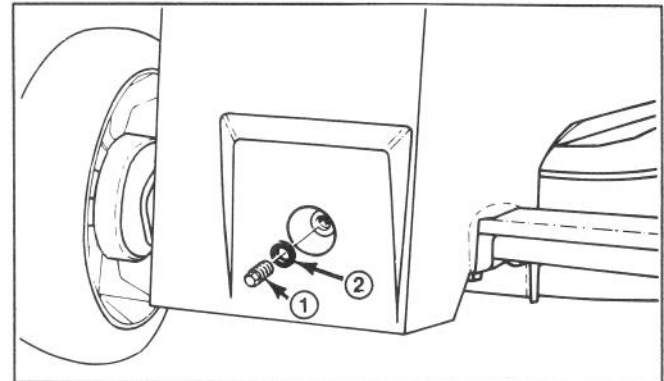

Figure 28
5. CHECKING GEAR OIL LEVEL—Reach between deck and gear case and clean around plastic gear case plug (Fig. 28). Remove gear case plug and gasket and watch for oil to drip out of hole. If oil drips out, quickly reinstall gear case plug and gasket because oil is at proper level. If oil does not flow, add gear oil: see step 6.